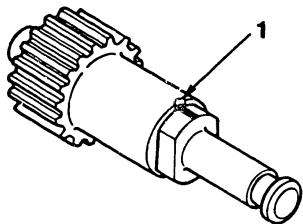

Fig. 48 Fitting the plunger
- 11. After reassembly, tilt the injection pump as shown in Figure 48 and confirm that the control rack moves smoothly under its own weight.**